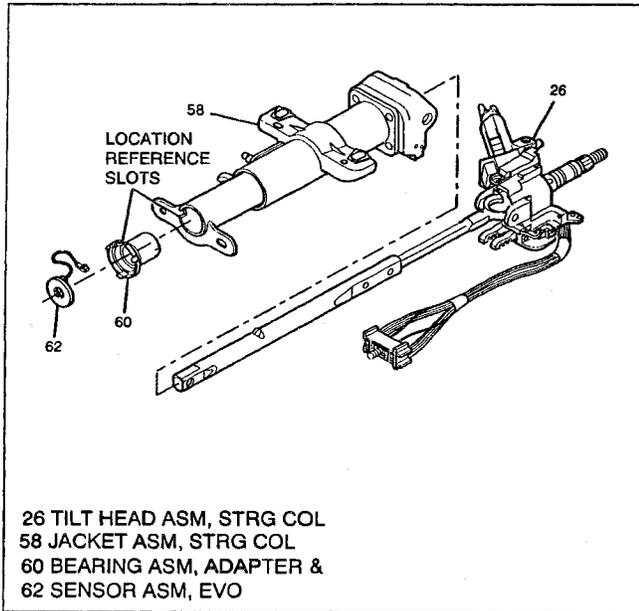

Figure 28 - Removing Tilt Head Assembly with Steering Shaft
- Mark race & upper shaft assembly (34) and lower steering shaft assembly (37) to ensure proper assembly. Failure to assemble properly will cause steering wheel to be turned 180 degrees. (See Figures 28 and 29).